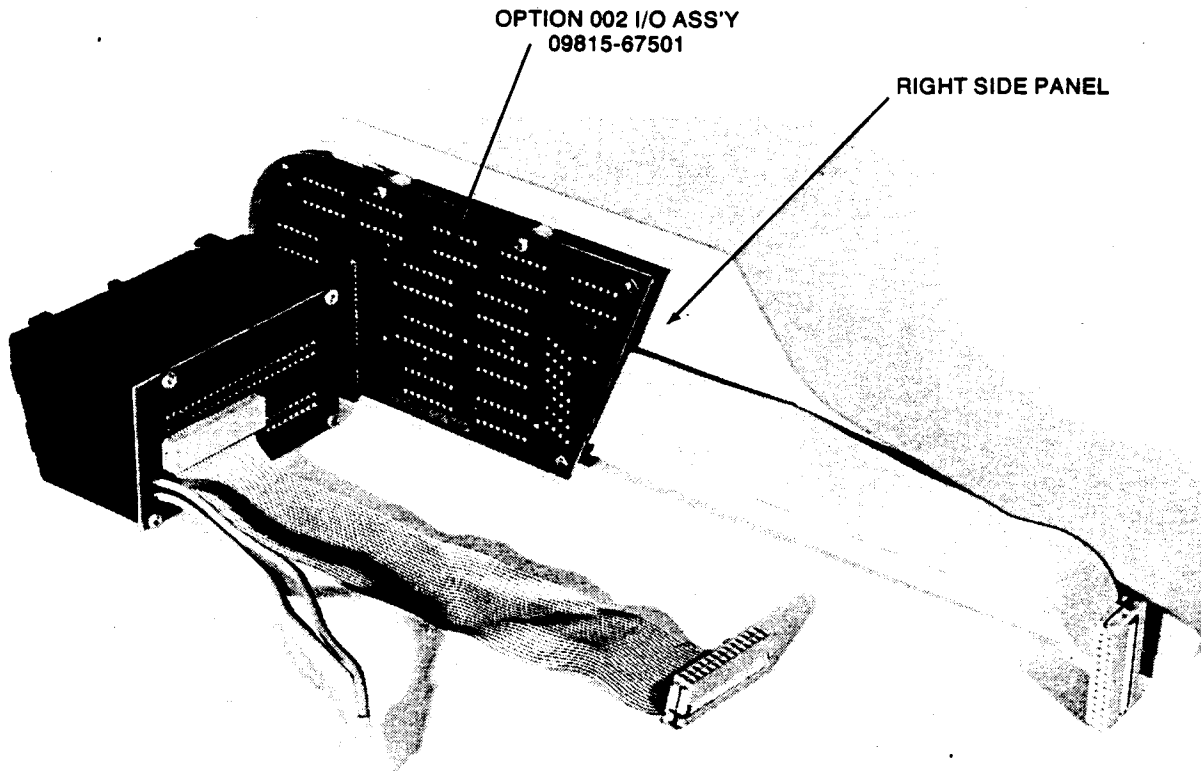

Figure 1-3. Option 002 Installation
- Fasten the I/O assembly to the right side panel with the hardware provided (see Figure 1-3).